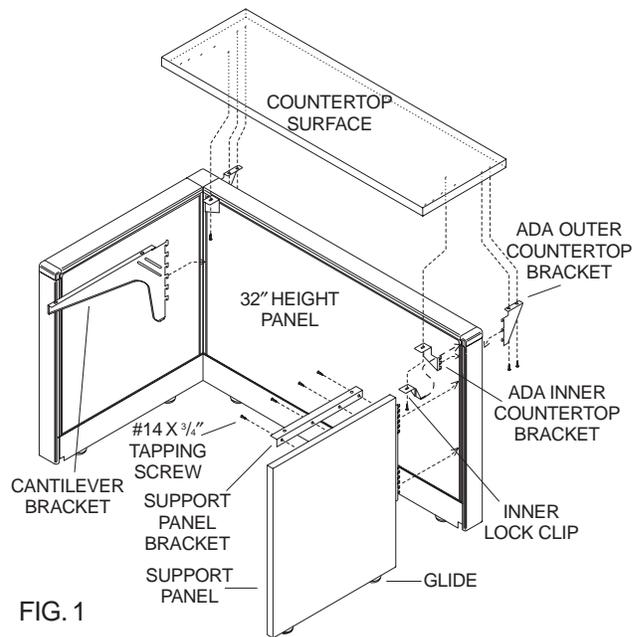

FIG. 1
9. Retract the glides on the worksurface support panel completely. Insert the teeth of the support panel into the trimrail grooves so that the top of the support panel is approximately 28 3/8" from the floor. Adjust the glides down to the floor, pushing the panel and teeth up to lock the support panel in place (Approximately 28 9/16" from floor) (Figure 1).